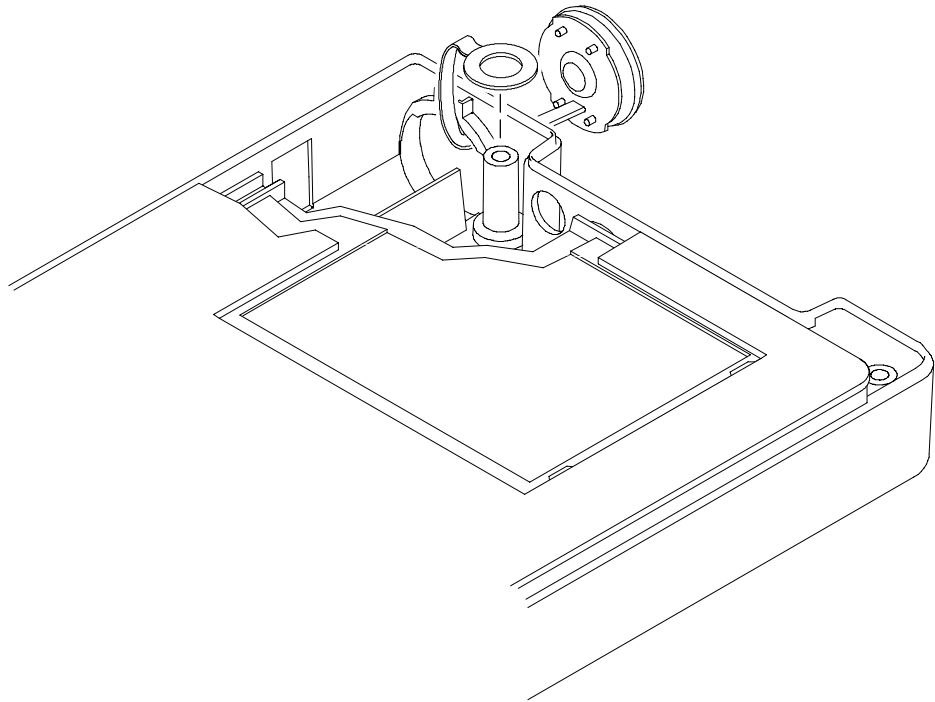

Figure 14: Removing the battery door
9. To remove the battery door, use the needle-nose pliers to slip the retaining tether off of the post inside the instrument case as shown in Figure 14.
- 2.** To install the battery door, pass the retaining tether through the battery opening from the outside and then use the needle-nose pliers to slip the retaining strap onto the post (see Figure 14).